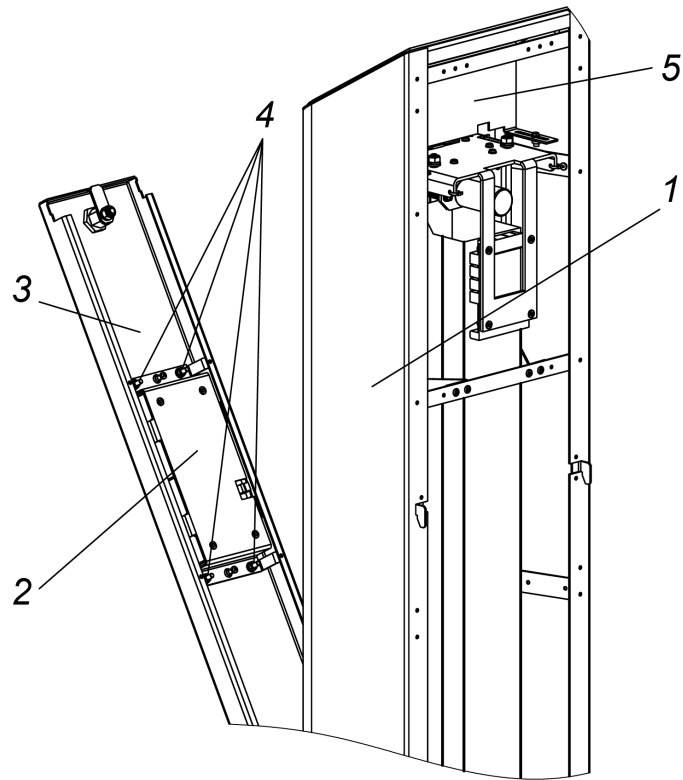

Figure 18. Side indication block (side module with built-in card capture reader)
- for side module with card capture reader (coin acceptor) (Fig. 18):
- open the collector cover lock with the key (3, Fig. 18) and pull it with the key towards you until it stops,
- remove the indication block (2, Fig.18) by unscrewing 4 nuts with washers (4, Fig.18).
- Remove the reader bracket (5, Fig. 18) by unscrewing the 2 screws.